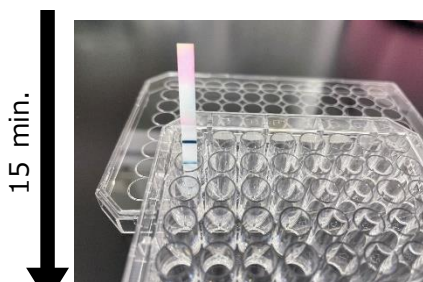

Fig.5
- Add 50  $\mu\text{L}$  of washing solution to each new well. [Fig. 5]